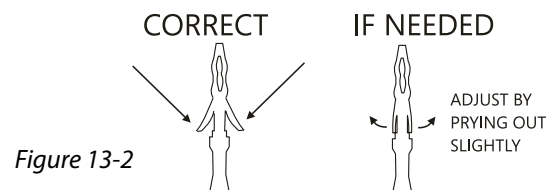

Figure 13-2
5. **Inspect the pin's retaining flanges.** The flanges may have been deformed while being run through the vehicle. These are critical to secure the pins inside the connector. Adjust as needed. *[Figure 13-2]*